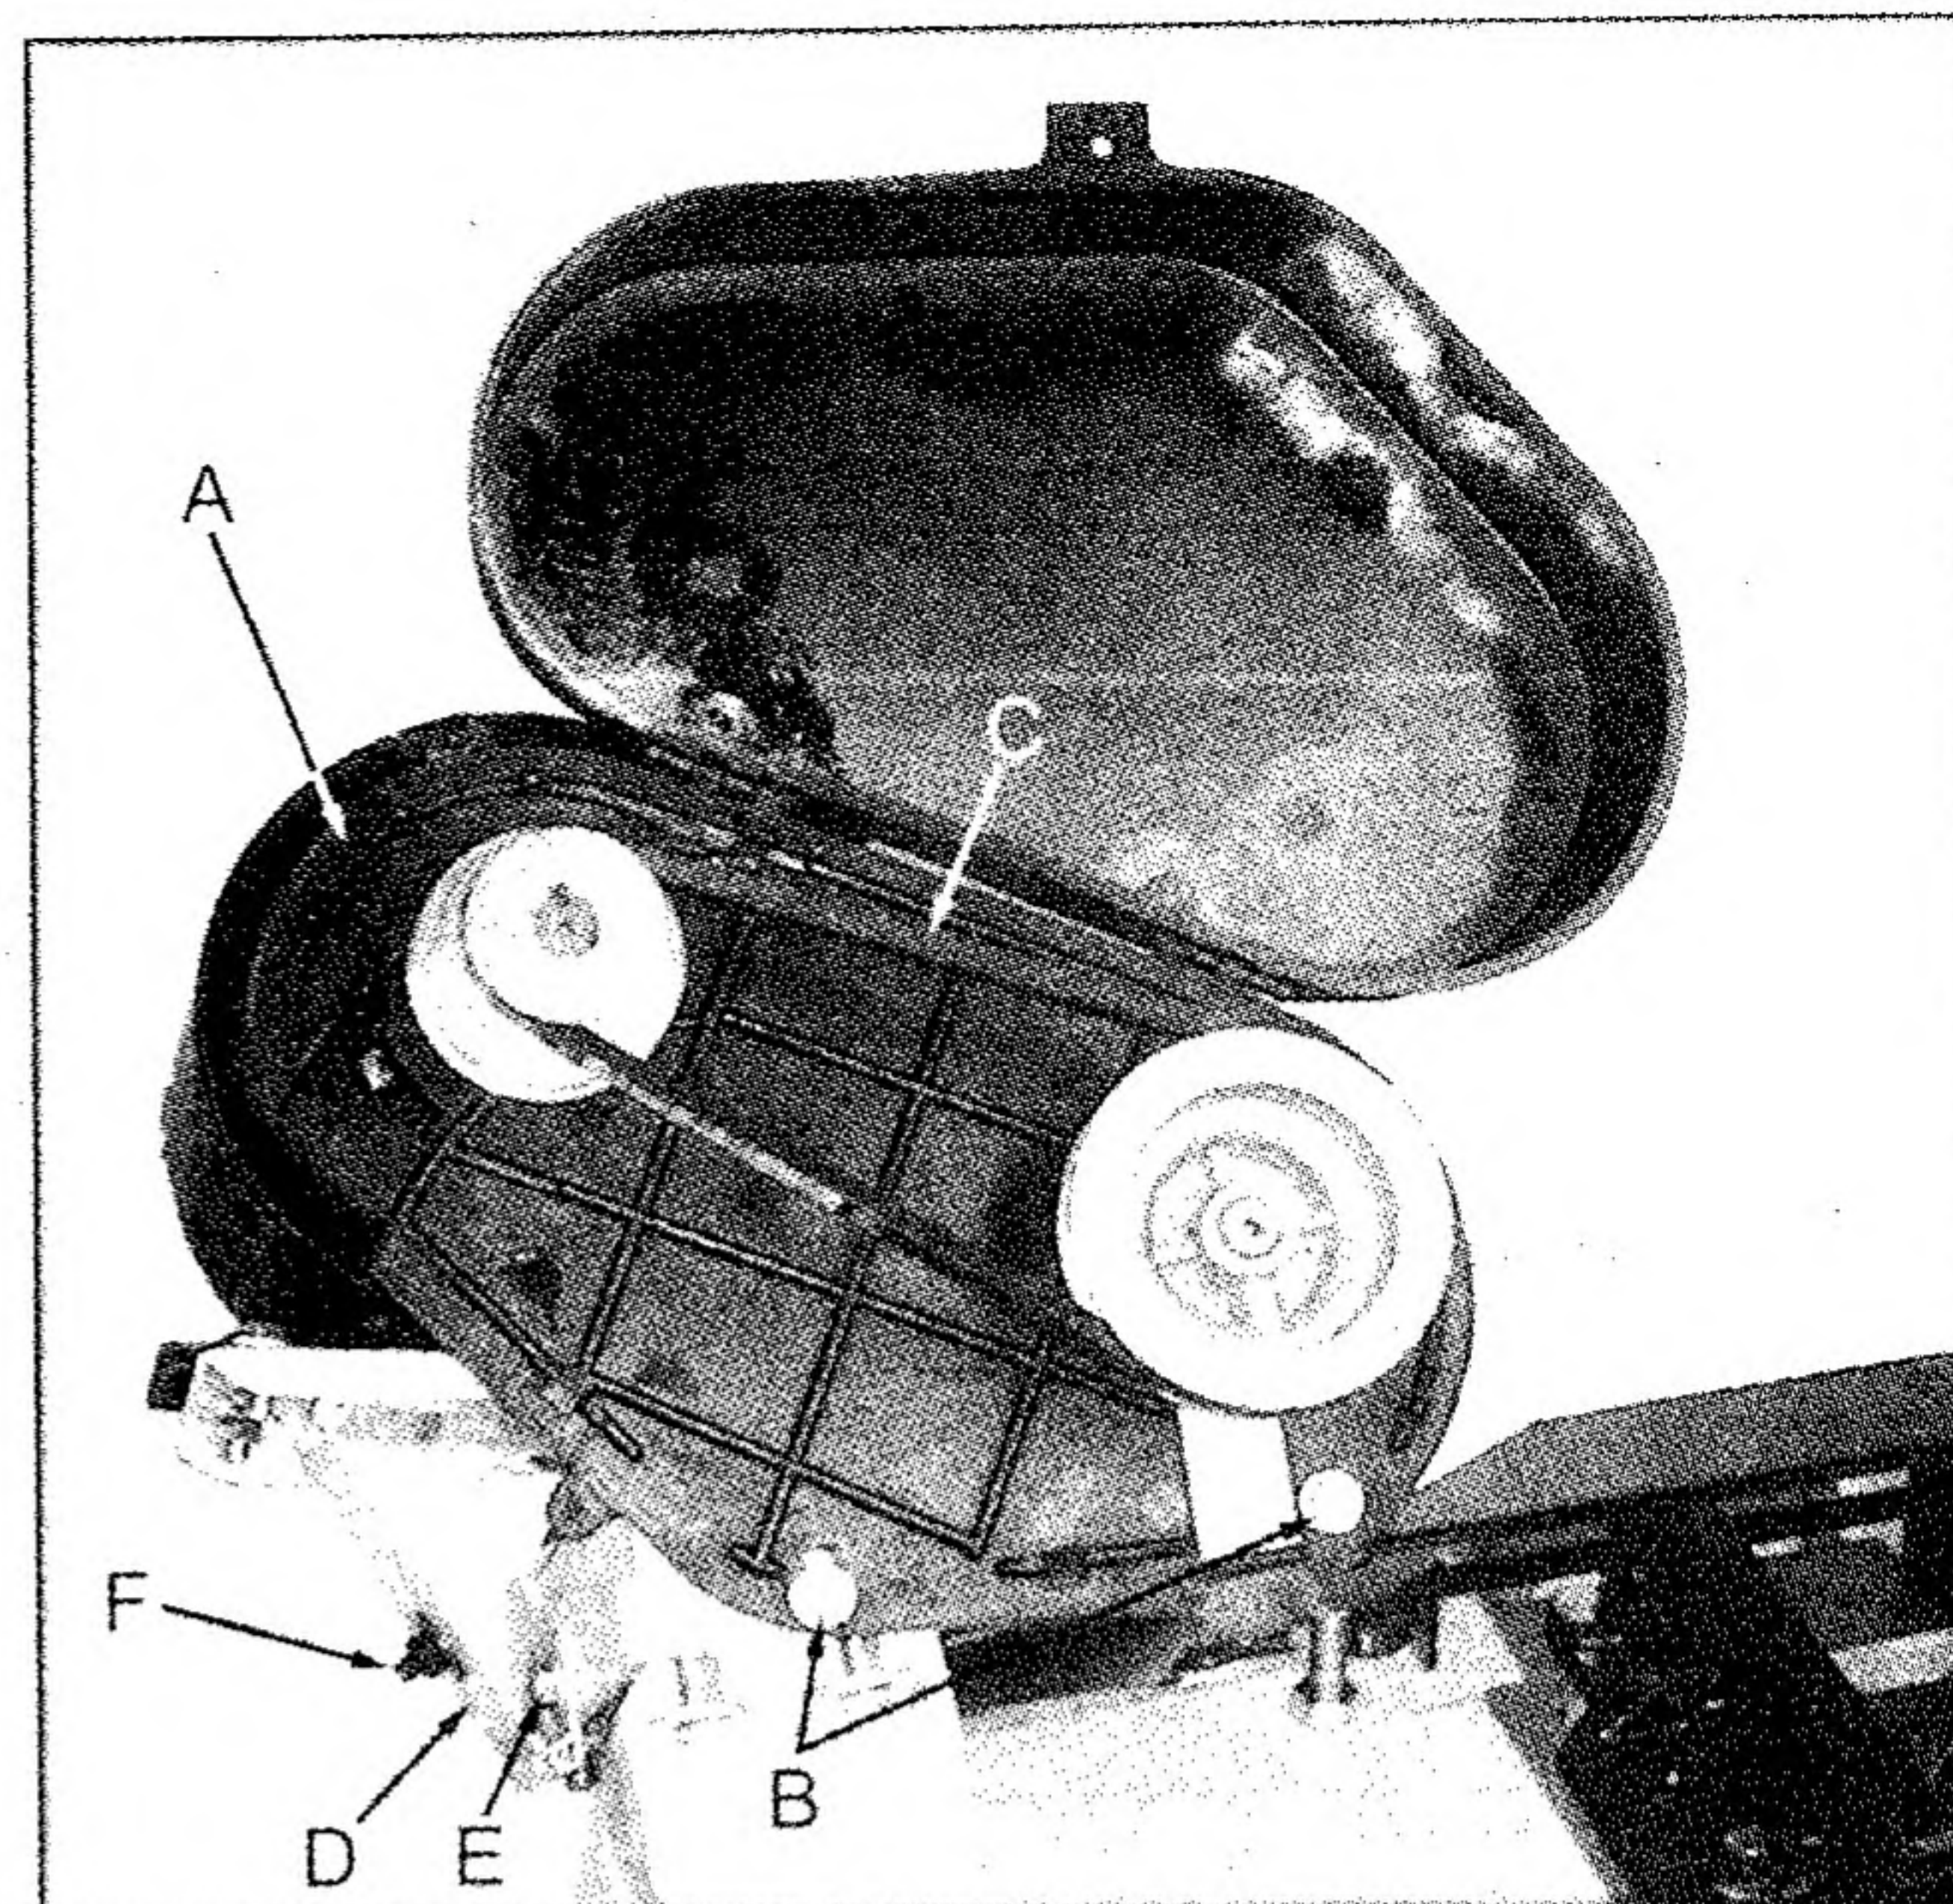

Fig. 5
11. Slide pulley cover (A, Fig. 5) around motor shaft and worm gear shaft. Secure with two hex cap screws and washers (B, Fig. 5).
12. Lift motor with one hand while the other hand places V-belt (C, Fig. 5) on both pulleys.
13. Attach the tension bracket (D, Fig. 5) to the saw bow with one 5/16"x3/4" hex head bolt and flat washer (E, Fig. 5).
14. Connect the two tension brackets with one 5/16"x3/4" carriage bolt, one 5/16" flat washers and one 5/16" hex nut (F, Fig. 5).
15. Tension belt by pressing down on the motor while tightening hex nut (F, Fig. 5) until finger pressure on the belt between the two pulleys causes approximately 1/2" deflection. Close pulley cover. Don't over tighten the belt.